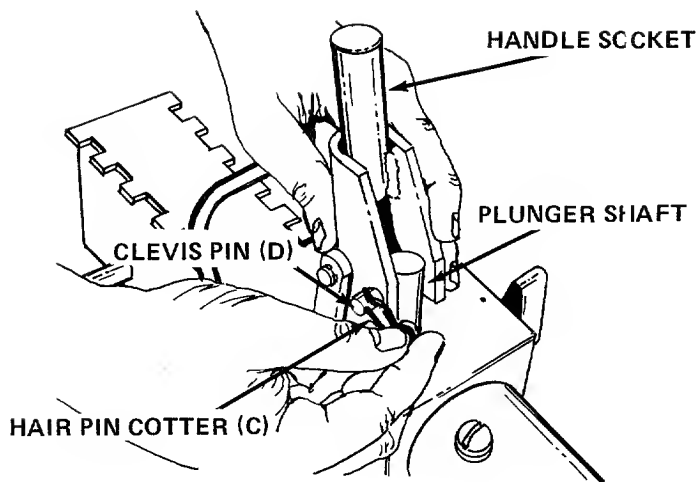

FIGURE 4
5. Lift the handle socket up so that the hole lines up with the hole in plunger shaft. See figure 4.
6. Secure handle socket to plunger shaft with hair pin (C) and clevis pin (D). See figure 4.
7. Place the handle grip (A) over one end of handle (B). Warm soapy water will aid in assembly. Tap grip on.